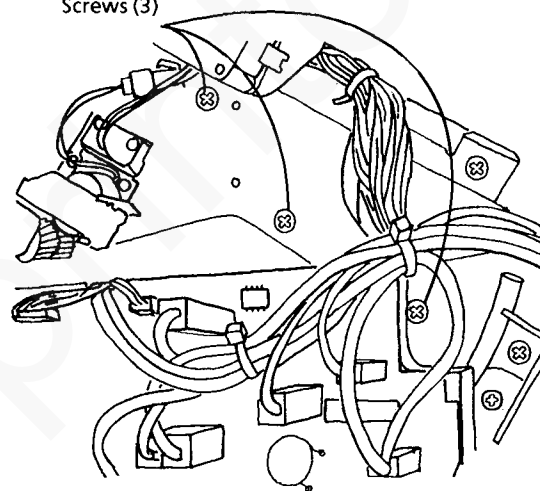

Figure 3. Removing the Screws
9. Remove the screws (3) from the rear frame (Figure 3).